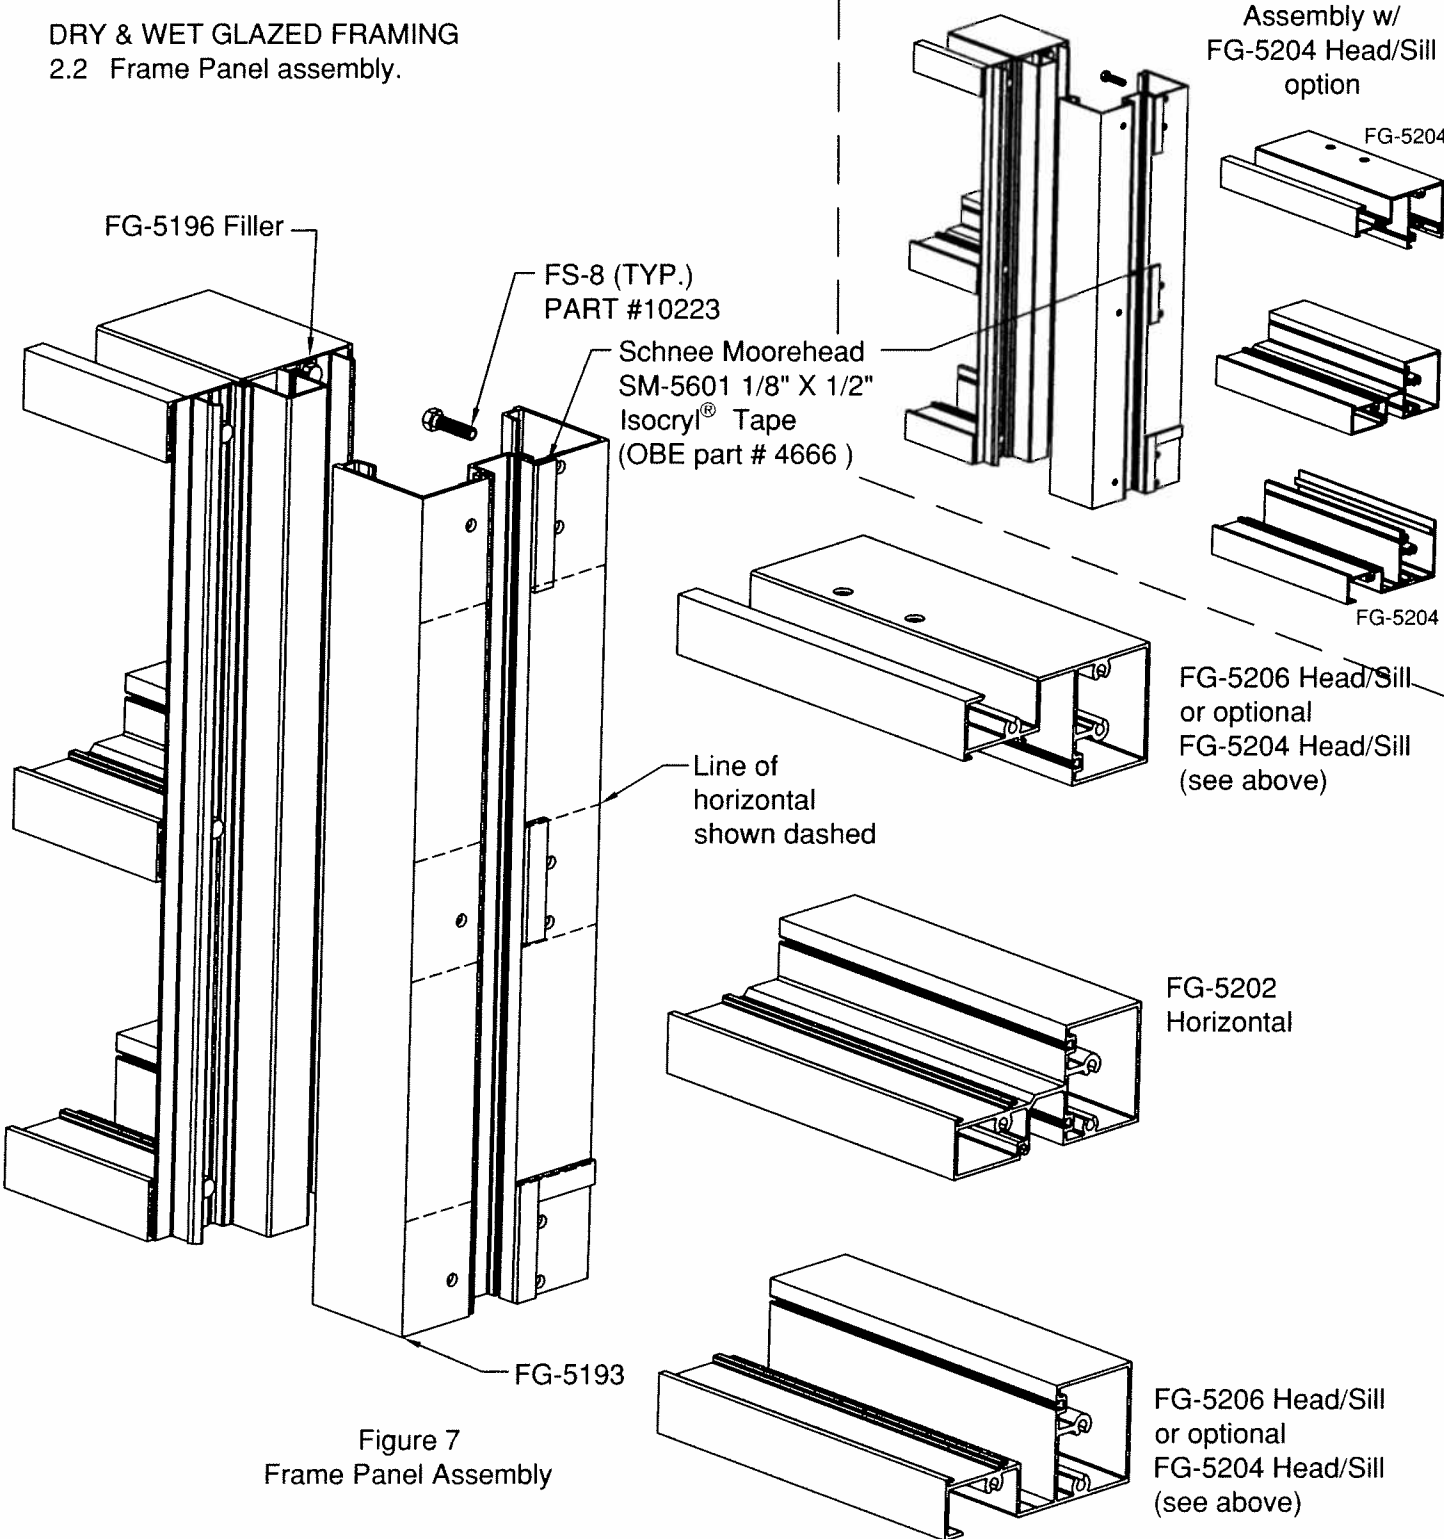

Figure 7
- 2.2.1 Clean framing members at locations where Isocryl® Tape is noted to be attached. SEE FIGURE 7, at tape intersection there should be no gaps.
Note: also install FG-5185 at vertical , if it was not installed prior to attaching horizontals see **Figure 7 on sheet 7** .